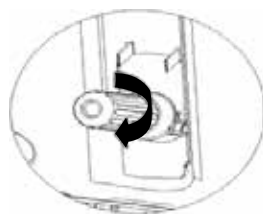

Fig.8
4. You should hear a clicking sound. This signals that the cartridge seal was pierced when the sheath was screwed back onto the cover, enabling the gas to flow into the keg (Fig. 8).